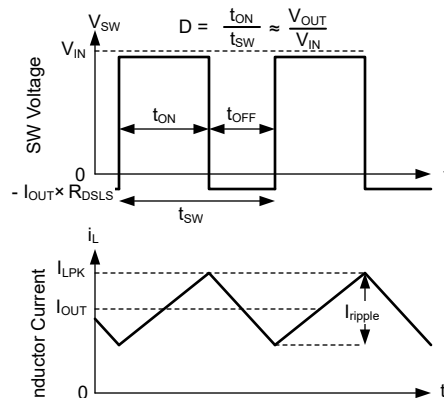

Figure 7-13. SW Voltage and Inductor Current Waveforms in Continuous Conduction Mode (CCM)
The following operating description of the LM684x5-Q1 refers to Section 7.2 and the waveforms in Figure 7-13. Both supply a regulated output voltage by turning on the internal high-side (HS) and low-side (LS) NMOS switches with varying duty cycle (D). During the HS switch on-time, the SW terminal voltage, V_{SW} , swings up to approximately V_{IN} , and the inductor current, i_L , increases with a linear slope. The HS switch is turned off by the control logic. During the HS switch off-time, t_{OFF} , the LS switch is turned on. Inductor current discharges through the LS switch, forcing V_{SW} to swing below ground by the voltage drop across the LS switch. The regulator loop adjusts the duty cycle to maintain a constant output voltage. D is defined by the on-time of the HS switch over the switching period: $D = T_{ON} / (T_{ON} + T_{OFF})$.